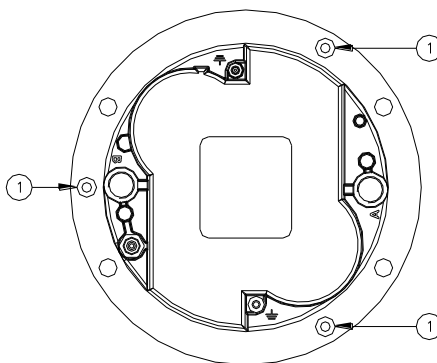

Figure 19 - Lower Cover Fixing Screws
- Open the fixture by unscrewing the three locking screws HSFH M5x10 (Figure 19 - n°1).
- three locking screws HSFH M5x10 (Figure 19 - n°1);
Verify the correct position of O-Ring between dome and lower cover (Figure 21 – n°2);, mount the lower cover on the dome and fasten it by means the three screws HSFH M5x10 (Figure 19 - n°1). One drop of anaerobic adhesive lower type (e.g. LOXEAL 24-18) should be applied to the screws before installation; tightening torque is 2.5 Nm.